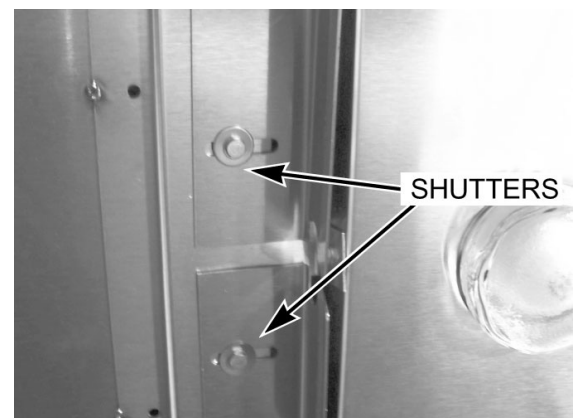

Fig. 55
1. Check air louvers (shutters) (Fig. 55) inside oven and tighten any loose screws.